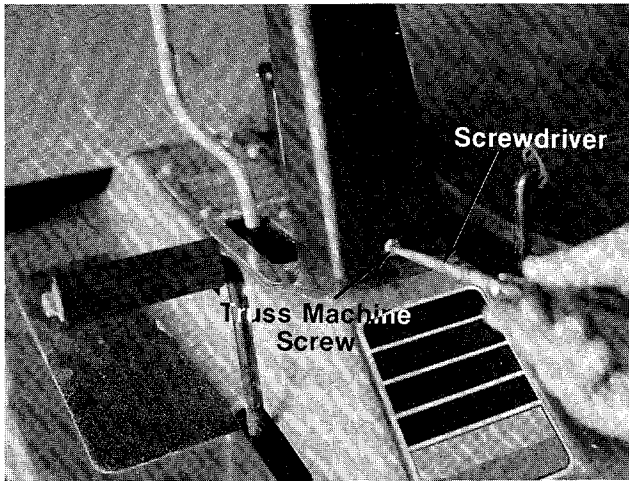

FIGURE 4.
- ← 7. Secure cover to support bracket with two truss machine screws provided. See figure 4.